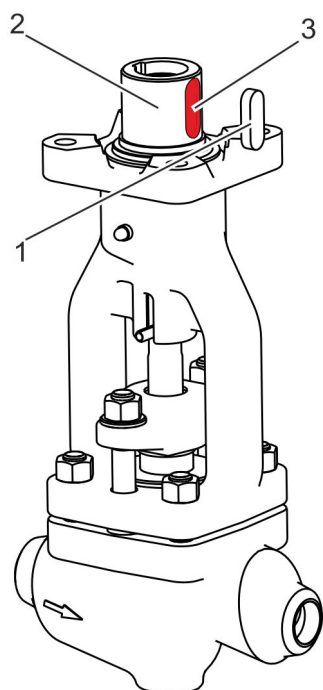

Fig. 37: Inserting the feather key
6. ➔ Insert the feather key (Fig. 37/1) into the feather key groove (Fig. 37/3) on the hub (Fig. 37/2).